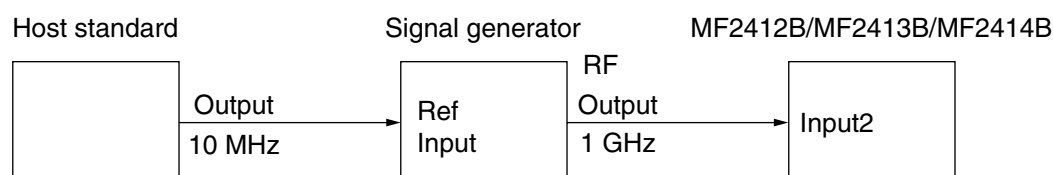

Fig. 8-1 Example of Connections for calibration
- (1) Turn the counter on for at least 24 hours in a $25 \text{ }^{\circ}\text{C} \pm 5 \text{ }^{\circ}\text{C}$ room until it warms up adequately.
- (2) Receive a frequency standard, standard radio wave receiver, or color TV subcarrier (NHK and TV Asahi use signals locked to a rubidium atom standard), and then connect the signal generator for generating a signal locked to this and this unit as shown in Figure 8-1.
- (3) Set the signal generator to 1 GHz.
- (4) Set the unit as follows after settings presets.